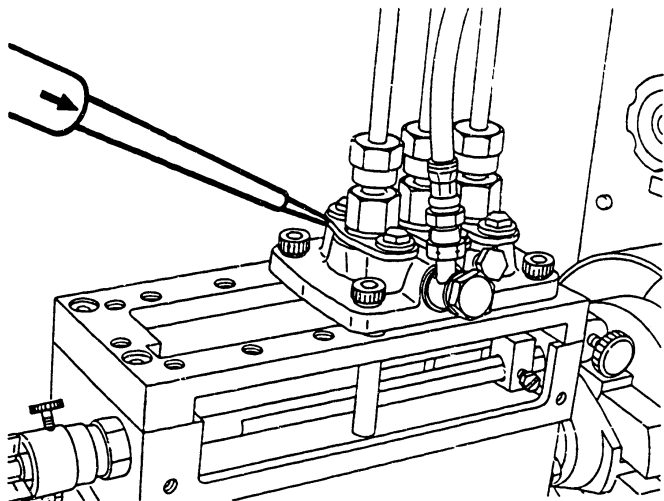

Fig. 69 Adjusting the injection quantity
- 3 While lightly tapping the sleeve flange, adjust the injection quantity. When moving the sleeve flange clockwise, as shown in Figure 69, the injection quantity is varied as indicated below (depending on the type of plunger helix).